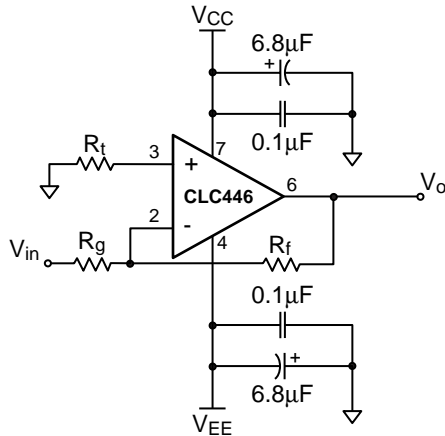

Figure 2: Inverting Gain
shown in Figure 2 is $A_v = -\frac{R_f}{R_g}$.
- Place a 50 to 200 Ω resistor between the non-inverting pin and ground (see R_t in Figure 2)